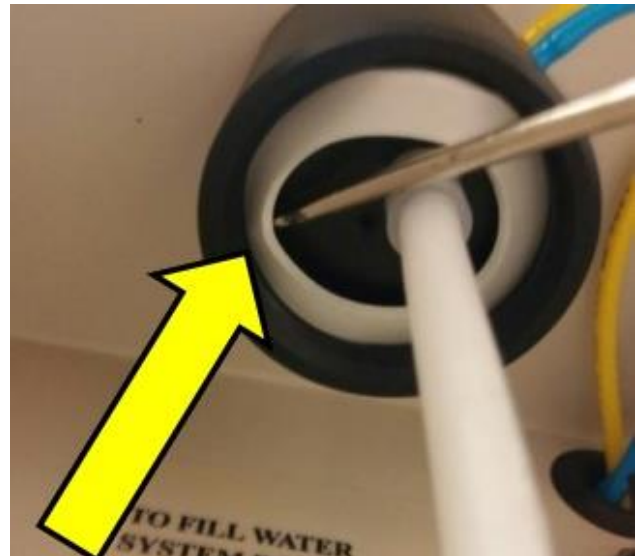

Fig. 3
5. Using a flathead screwdriver, remove the gasket from the pressure head. (Fig. 3)